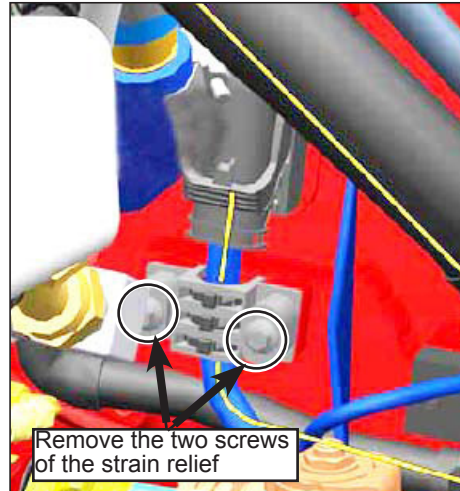

Figure 3 - Remove the Engine Harness Strain Relief and Disconnect
- 1.3. Remove the two screws that secure the strain relief for the engine harness and disconnect the ECM connector (see Figure 3).